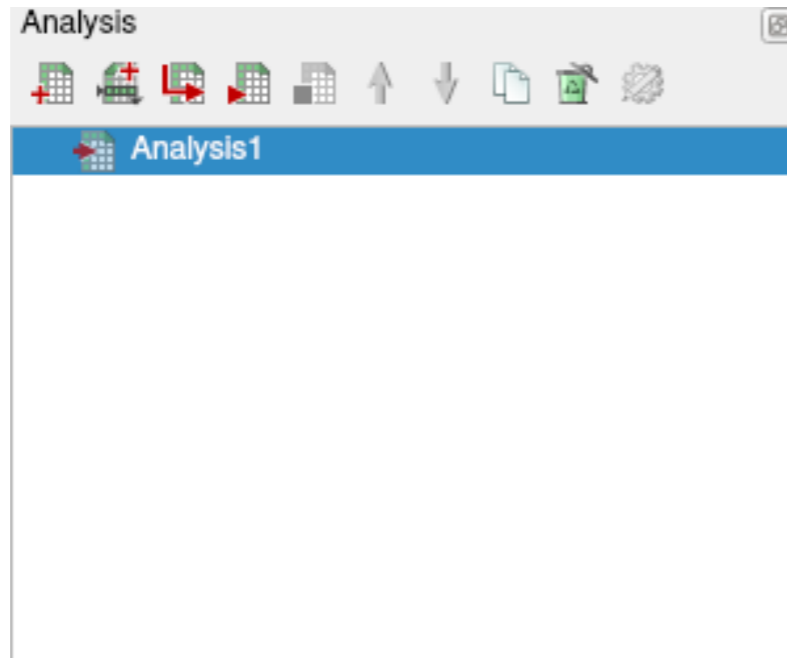

Figure 27: Analysis browser
**Main menu** → Analysis → Add analysis  [Fig. 27]